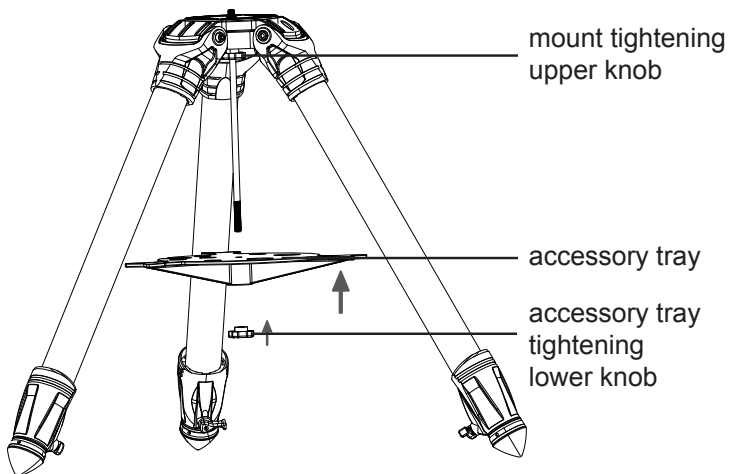
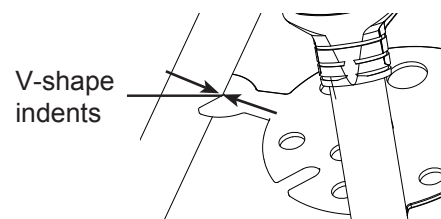

Fig. 1.1c
Fig. 1.1d
2. Install the accessory tray and the lower knob on the central rod (Fig 1.1c). Place the V-shaped indents of the accessory tray against the tripod legs. Tighten the lower knob loosely to allow turning the upper knob later (Fig 1.1d).
- Loosen the 3 clamp levers on the tripod legs to extend the tripod legs to the desired length (Fig 1.1d).